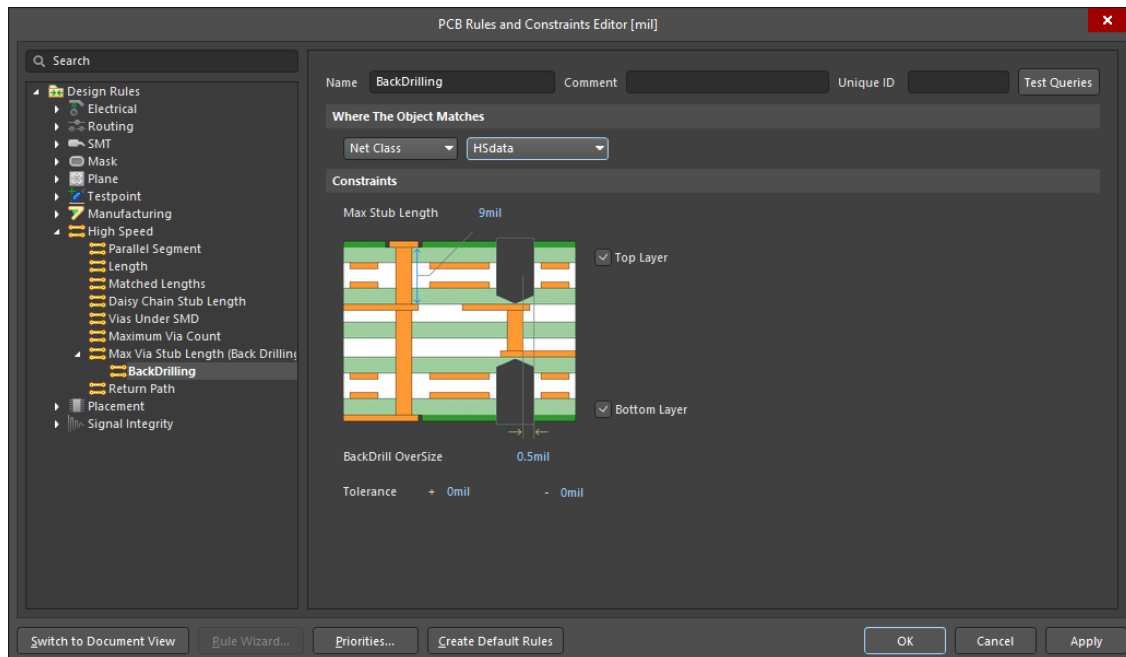

Figure 8. HSdata Net Class Scope for rule
22. Next, you will limit the Back Drilling to only include the high-speed nets. In order to scope this new rule to your targeted nets, you can use the Object Matching drop down menu and pick **Net Class** – then select the **HSdata net class** from the second pulldown menu. This will limit Drill Pairs to only pads and vias associated with the HSdata nets, Figure 8.